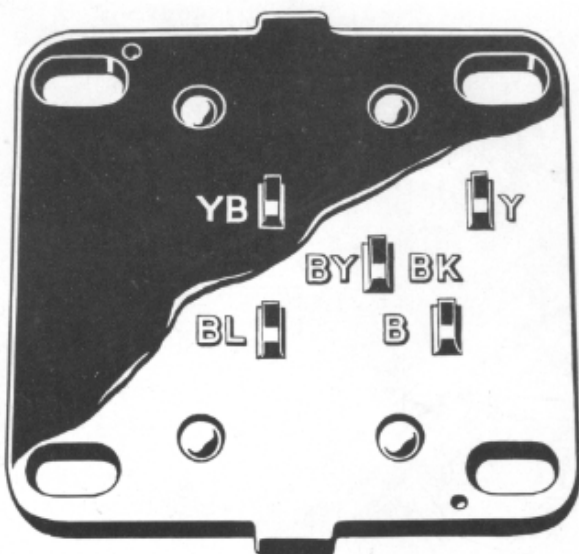

Figure 26
75. Solder the five wires to the proper terminals of the contact plate as indicated by the wire code stamped on the plate adjacent to the terminals. Figure 26.
76. Insert sliding block (25) into contact plate guides. Be sure the sliding block driving lug is to rear of block where assembled.